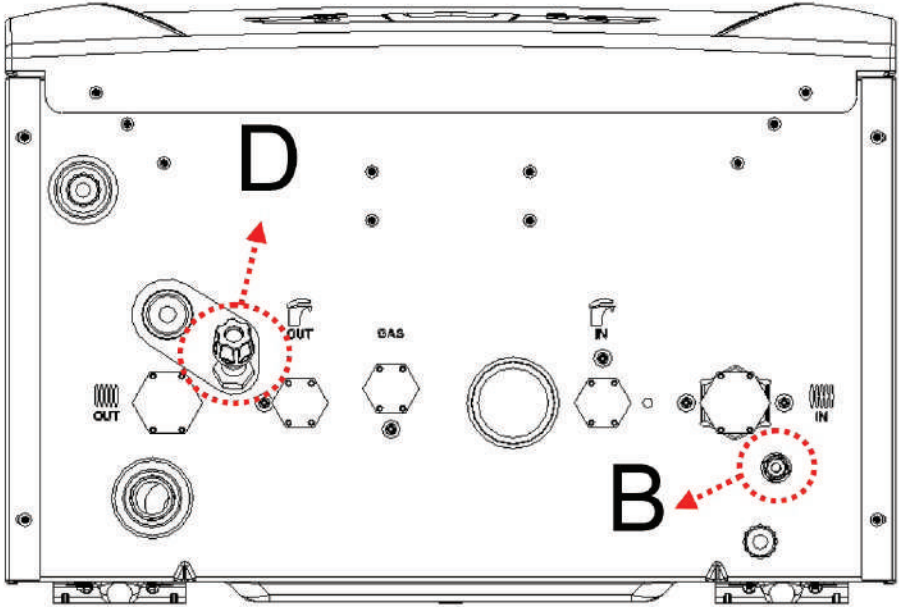

Figure 2. Bottom view of Seradens Super Plus combi boiler
Pressure sensor is included in Seradens Super Plus combi boilers. After all connections (electric, fittings and flue) are completed, system could be filled by means of filling tap (F) which is positioned at left-bottom side of the boiler (Figure 2). Before filling the system, press user info key (2) for 2 seconds and see pressure value on basic digit area. Filling operation must last until “1.2 bar” value is displayed on the screen. If the user info menu is closed before the intended value is reached (it is closed after 30 seconds), enter the user info menu again by pressing key (2) for 2 seconds in order to be sure of that sufficient amount of water is filled to the system.
If the water pressure falls down under a certain value, E04 error is seen on the screen. In order to increase the pressure value, open the filling tap (F) in Figure 2. Check the pressure value from the screen to avoid filling the system excessively. Keep filling the system until the pressure reaches 1.2 bar, then close the filling tap.
Excessive filling of the heating system leads to E47 error, this is a precaution to avoid uncontrolled discharge of excess water from 3 bar safety valve. If you see E47 error on the screen due to excess pressure, discharge the proper amount of water by means of drainage tap (D) (Figure 2) or follow the instructions given in “Water Pressure Errors” in Section 2.10.